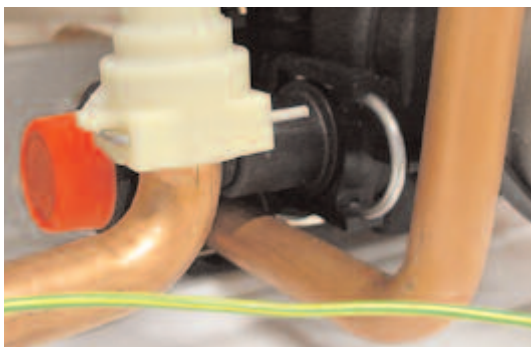

Fig. 18.47
2. Open the pressure relief valve (on the pump) (see Fig. 18.47) or the drain screw "P1" on the right hydraulic block (see Fig.18.48);